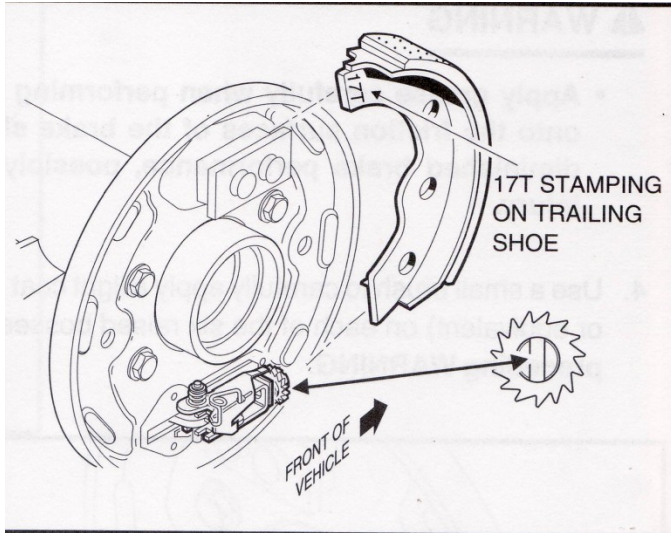

Figure 6-12
1. Turn the adjusting wheel screw so that the shoe slot is vertical, then position the trailing shoe in the slots in the shoe mounting block and adjuster assembly (Figure 6-12). See following NOTE.
The trailing shoe has 17T stamped into the tip of the shoe flange (Figure 6-12). The leading shoe is stamped 17L. When installing the shoes, the stamping on both sides should be oriented to the top of the brake assembly. When installing the shoes on the passenger side of the vehicle, the side of the trailing shoe flange marked 17T should be facing out and be visible. On the driver side, the 17L on the leading shoe should be facing out and be visible.